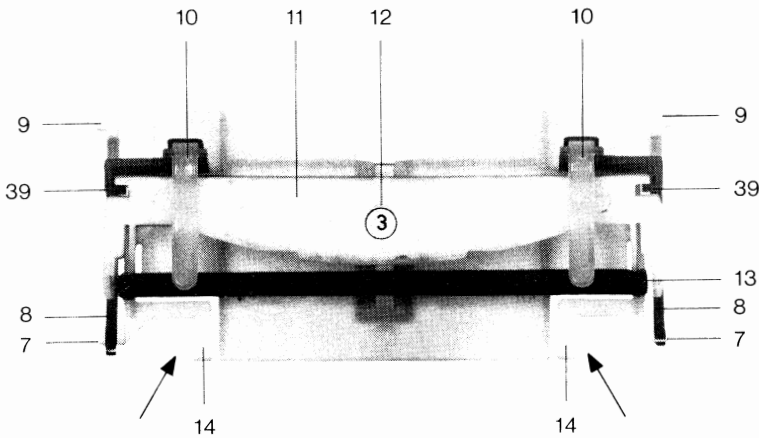

Fig. 4 Ink ribbon magazine
- 5) ink ribbon magazine (Fig. 4)
The bottom carrier (e. g. violet ribbon for channel 1) is pushed forwards out of the magazine by a pusher arm and is held in the printing position by two spring clips (8, Fig. 4).